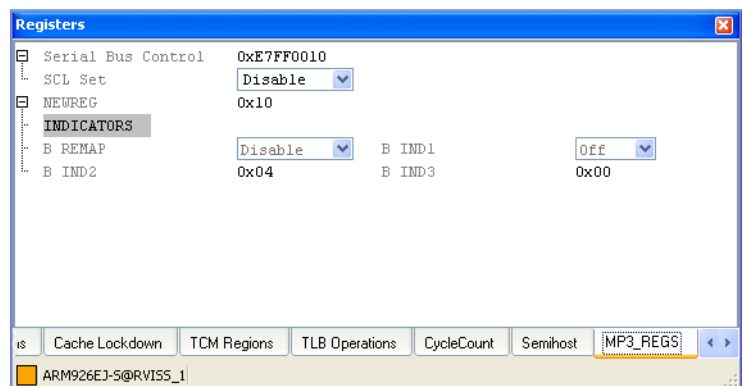

Figure 4-26 MP3\_REGS tab in the Registers view
3. Select the **MP3\_REGS** tab to view the custom registers. An example is shown in Figure 4-26.